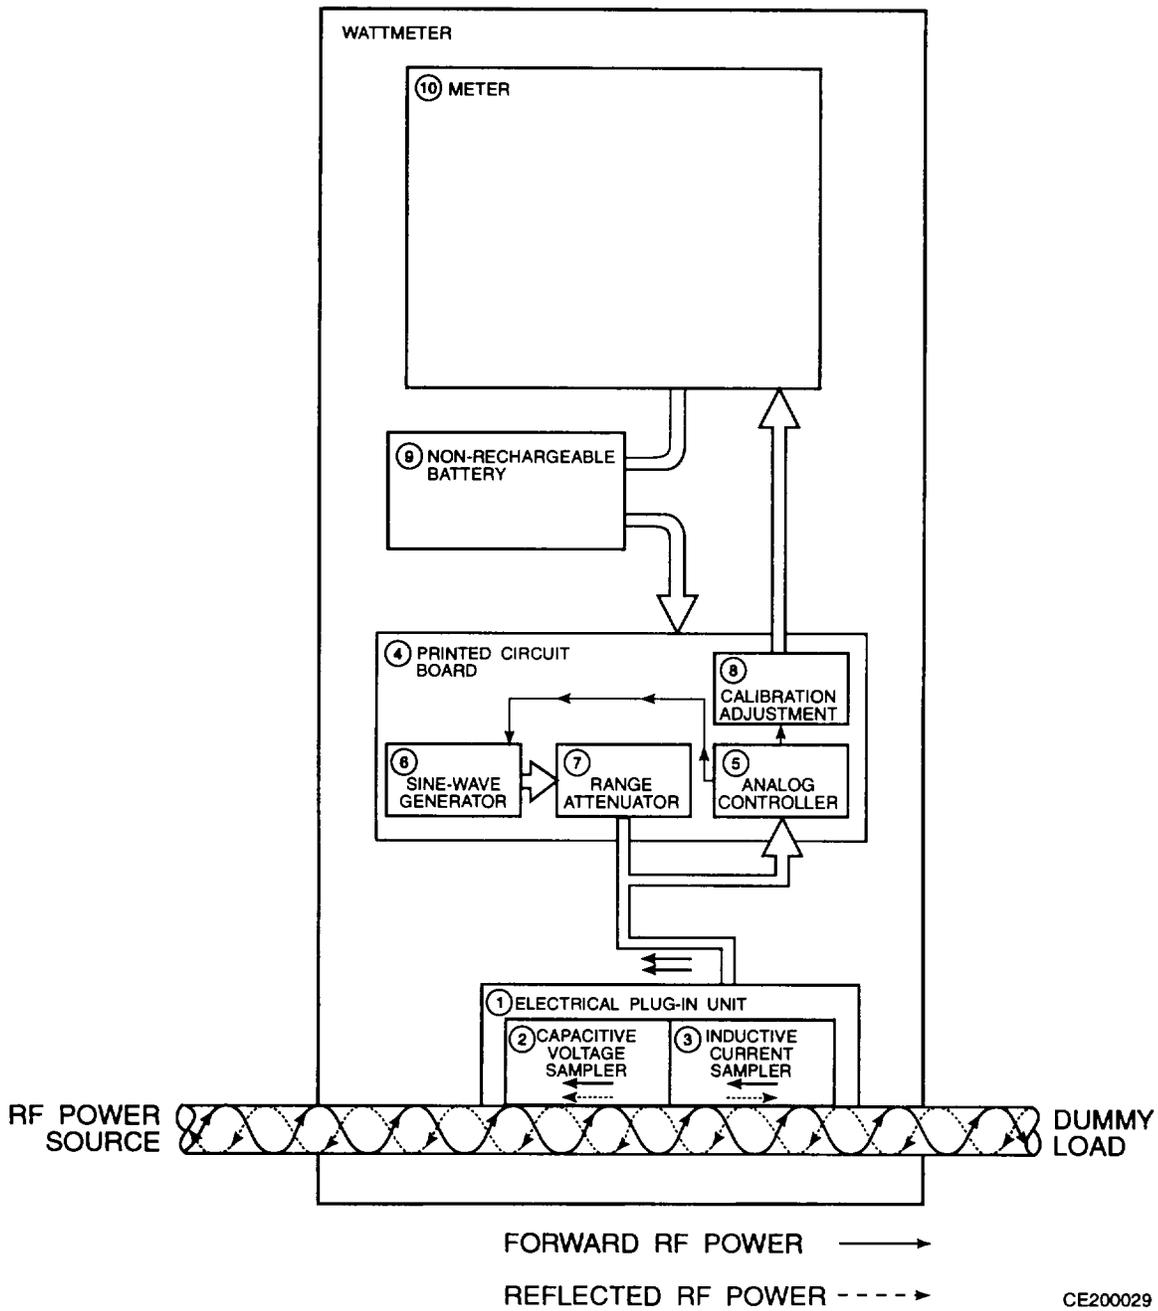

Figure 5-2. Wattmeter Functional Block Diagram
A functional block diagram of the wattmeter is shown in Figure 5-2. The electrical plug-in unit (1) samples the RF voltage and current signals traveling through the coaxial line. The capacitive voltage sampler (2) produces a voltage ( $V_{Cf}$ ) from the flow in the forward RF voltage (from source to load) and also a voltage ( $V_{Cr}$ ) from the flow of any reflected RF voltage (from load to source). The forward and reflected samples add together to form the total capacitive voltage signal ( $V_{Cf} + V_{Cr} = V_{Ctotal}$ ). In the illustration, signals sampled from the forward RF power are represented by solid arrows while signals sampled from the reflected RF power are represented by dashed arrows. The inductive current sampler (3) produces a voltage ( $V_{Lf}$ ) from forward flow of RF current and a voltage ( $V_{Lr}$ ) from any reflected RF current. The voltage generated from the reflected RF current is 180° out of phase with the voltage generated from the forward RF current and will subtract to form the total inductive voltage signal ( $V_{Lf} - V_{Lr} = V_{Ltotal}$ ). The element is designed so that the voltages generated by the capacitive voltage sampler are the same amplitude as the voltages generated from the inductive current sampler ( $V_{Cf} = V_{Lf}$  and  $V_{Cr} = V_{Lr}$ ). Combining the output of both samplers causes the signals from power flow to add in one direction and the opposite signals to subtract. For example, during forward power measurements the samples add in the following way;  $V_{Cf} + V_{Cr} + V_{Lf} - V_{Lr}$  which is equal to  $(V_{Cf} + V_{Lf})$ . If the electrical plug-in unit is turned in the reflected direction, forward signals from the capacitive voltage sampler and the inductive current sampler will cancel while the reflected signals will be combined. This is how the electrical plug-in unit obtains its highly directional characteristics.